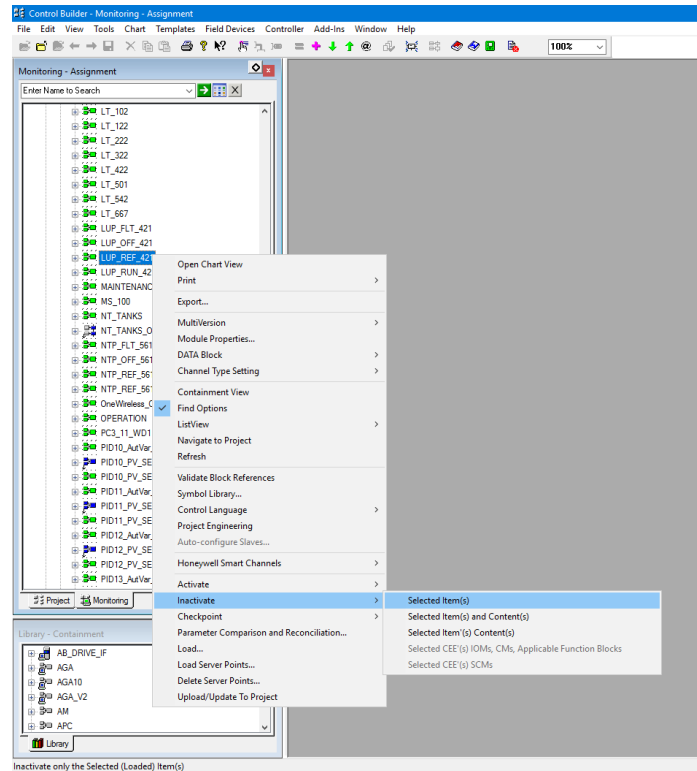

Figure 1: Deactivation of LUP_REF_421 control module (STEP 1a).
2. Select 'selected item(s)' in the drop-down menu in the inactivate sub-menu (*Figure 1*).